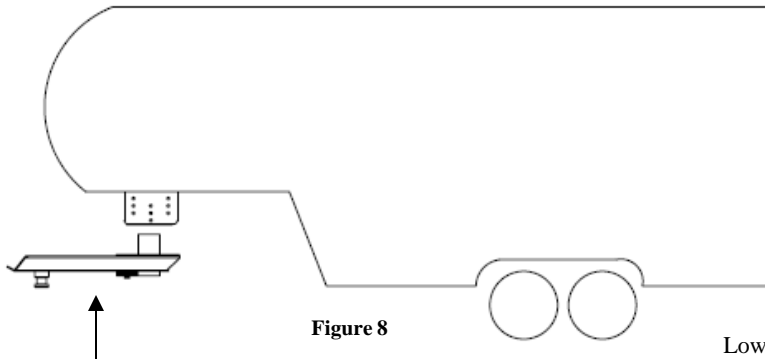

Figure 8
10. Install the Sidewinder™ inside the mounting wings (Figure 8). Cequent Performance Products recommends replacing the mounting bolts, nuts, and lock washers with the same size & grade as the bolts removed from the original pin box. Torque all bolts to the proper value listed in table 1.